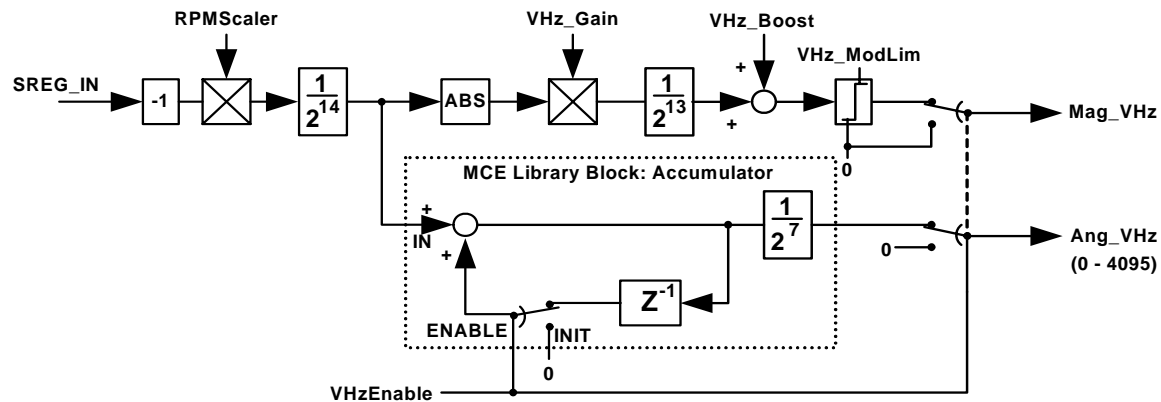
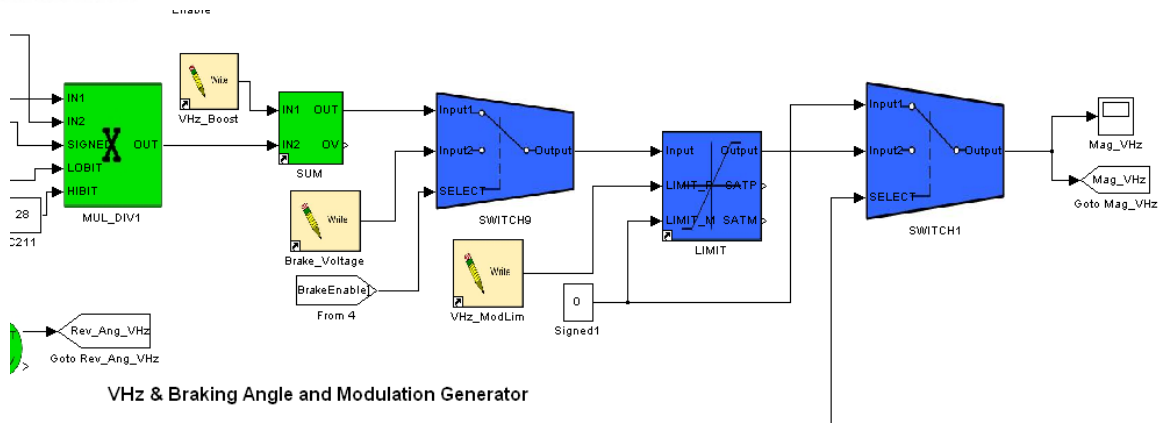

Figure 88—Implementation of Volts per Hertz with Voltage Boost
Figure 91—MCE Implementation of VHz (and Braking) Components (split into two parts)
The “Volts per Hertz” mode supports a Volts-Hertz profile with voltage boosting. This mode is simply an open-loop system, which provides a configurable voltage to frequency relationship, with uncontrolled motor current. The VHz control block is shown schematically in Figure 88 below along with its transfer characteristic (Figure 90).
The input SREG\_IN of Figure 88 below is a speed command signal that is driven by the speed ramp block (in the MCE speed loop subsystem) of the existing PM control algorithm. The outputs are the voltage modulation index (Mag\_VHz) and electrical angle (Ang\_VHz). These signals feed the external interface handles UqFeedForward and ExtFwdAngle, respectively, of the existing
The actual Simulink implementation of the diagram in Figure 88 is shown in Figure 91. Note that the calculation path is also used to generate voltage modulation and angle for Non-regenerative Braking, as described in Section 6.2.3.2, below.
The non-regenerative braking function makes use of the same calculation path as the VHz mode to generate the angle and voltage parameters to the FOC block. Write to the TargetSpeed register to choose the braking frequency. Note that the MinSpd check is disabled during braking to ensure that the correct drive frequency is used. When BrakeEnabled is set high, the speed is automatically set to be in the opposite direction. The braking voltage modulation level is set by register Brake\_Voltage. The implementation of the braking is shown in Figure 91 above.
**Brake\_Voltage**—This parameter configures the magnitude of the braking voltage as used in Figure 91. The MCEWizard sets this parameter to 100.